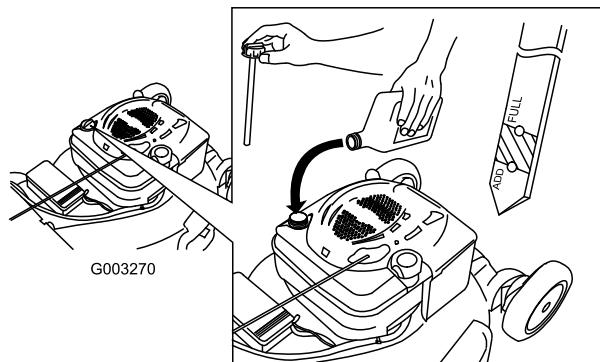

Figure 10
1. Remove the dipstick, wipe it clean, and fully install the dipstick (Figure 10).
2. Remove the dipstick and check the oil level (Figure 10). If the oil level is below the **Add** mark on the dipstick, **slowly** pour oil into the oil fill tube to raise the oil level to the **Full** mark on the dipstick. Wait 3 minutes after adding oil to check the oil level with the dipstick. **Do not overfill.** (Max. fill: 20 oz. (0.59 l), type: SAE 30 detergent oil with an API service classification of SF, SG, SH, SJ, SL, or higher.)